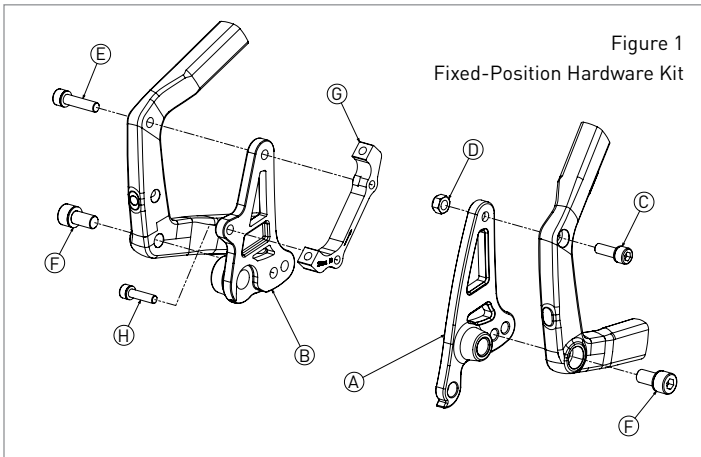
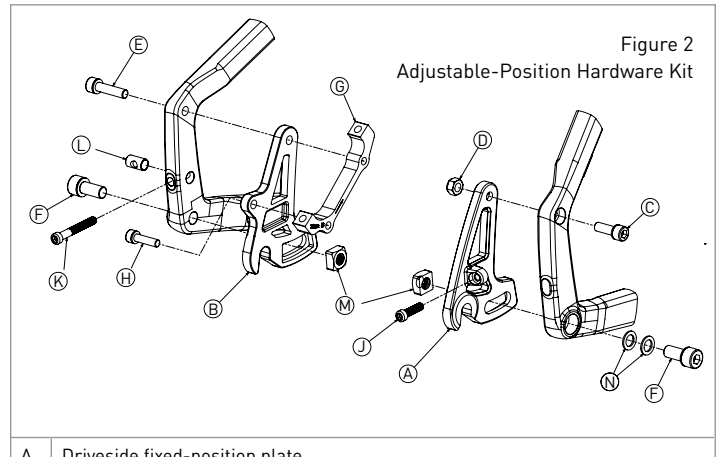
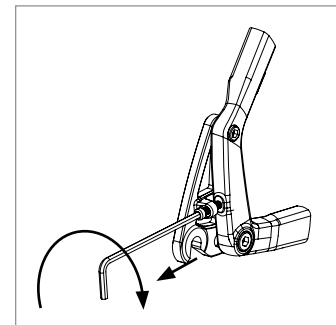

Figure 1
Figure 2
Figure 4
Alternator 2.0 Dropout plates comes in two styles; **fixed-position plates** (Fig. 1, items A and B), and **adjustable-position plates** (Fig. 2, items A and B). All dropout plates are sold individually to facilitate mixing and matching to accommodate various drivetrain and axle combinations.
There are two hardware kit options for attaching to Alternator 2.0 dropout plates to compatible Salsa frames; a Fixed-Position Hardware Kit (Fig. 1) and an Adjustable-Position Hardware Kit (Fig. 2). As the names imply, the kit used to attach the dropout plates is determined by the plate style being used on the frame. Fixed-Position and Adjustable-Position Hardware Kits are sold separately, and independent of dropout plates. Each hardware kit contains enough hardware to mount both a right and left dropout plate of the corresponding style.
Refer to Figure 1:
Refer to Figure 1 for all referenced item numbers in this section.
Refer to Figure 2 for all referenced item numbers in this section.
- a. Insert the upper pivot bolt w/ captured washer (C) through the frame and the dropout plate (A), and thread into the M6 nut (D). Make sure the nut seats into the hex broach on the backside of the plate. Turn the upper pivot bolt until it is 1/2 turn from fully tight, and the dropout plate is still free to rotate relative to the frame.
- b. Place a square nut (M) into the track on the inside face of the driveside dropout plate (A) with the larger, square surface against the dropout plate (rounded side towards the frame's centerline).
- c. Insert the lower fixing bolt w/ captured washer (F) through the frame and the slot in the dropout plate (A) and thread it loosely into the square nut (G) until it is 1/2 turn from tight. DO NOT include either of the two loose washers (N) included with the kit at this time as these are accounted for later in Step 7.
- d. Thread the driveside anti-slip screw (J) four to five turns into the threaded tab on the driveside plate (A), but not so much that it protrudes past the back face of the tab on the plate.
4. Install the non-driveside adjustable plate using the Adjustable Plate Hardware Kit and an appropriate third-party I.S. brake adapter and bolt as described below, with reference to Figure 2:
- a. If present, remove the M6 nut (not pictured) that is helping to secure the non-driveside dropout plate (A) to the frame via the upper pivot bolt (E). Set this nut aside, it is no longer needed.
- b. Insert the upper pivot bolt (E) through the frame, through the dropout plate, and thread it into the upper hole of the I.S. brake adapter (H) until it is 1/2 to 1 turn from tight.
- c. Using one of the bolts supplied with the brake adapter (H), finish aligning the I.S. brake adapter (G) to the dropout plate (B) by passing the bolt through the lower brake mount hole on the dropout plate, and threading it into the adapter. Turn until finger tight.
- d. Place the remaining square nut (M) into the track on the inside face of the non-driveside dropout plate (B) with the larger, square surface against the dropout plate (rounded side towards the frame's centerline).
- e. Insert the remaining lower fixing bolt w/ captured washer (F) through the frame and the slot in the dropout plate (B) and thread it loosely into the square nut (M) until it is 1/2 turn from tight.
- b. If using a singlespeed drivetrain, or more tire clearance is needed, use a 4mm hex key and slowly turn the driveside anti-slip screw (J) clockwise, so that the end of the screw contacts the mating surface on the frame and starts to pull the dropout/hub assembly rearward (Fig. 4). Adjust this screw until adequate chain tension, tire clearance, or both is reached.